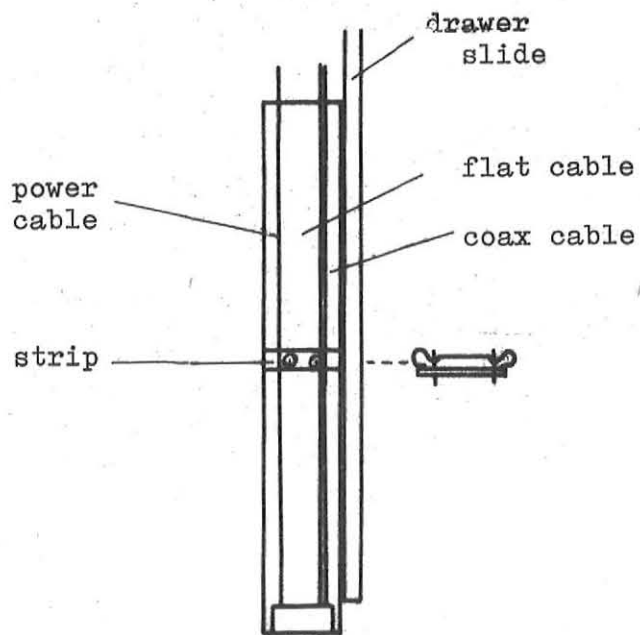

Figure 10-2 CABLE CONNECTIONS
1.3 INTERFACE CONNECTIONS (figure 10-2)
Interface cable and power cable must be fastened as shown in figure 10-2.